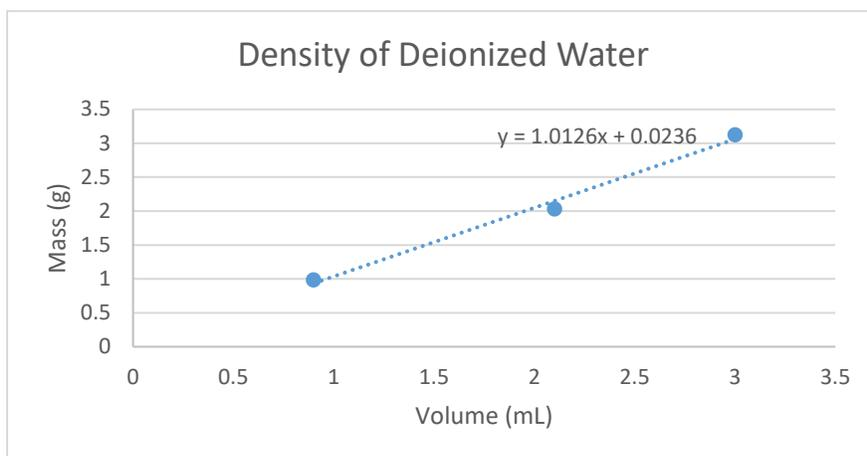

Fig. 7: Graph of Mass vs Volume to determine the density of deionized water
10. Make sure that the equation is readable on the chart. Delete the legend on the right-hand side. Print the chart as full page (Fig. 7).